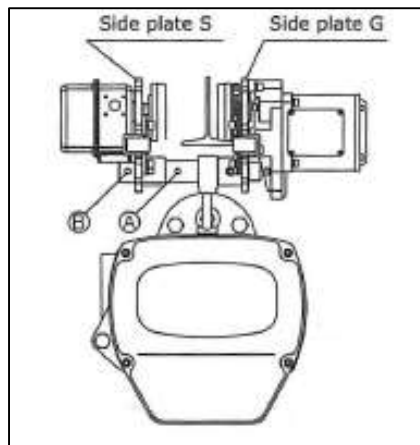

Figure 5.2.2.1
3. The simplest ways to mount the trolley hoist on the beam, as long as the crane or building construction permits it, is to remove the trolley stops on an open end of the beam, run the trolley onto the beam and replace the trolley stops. If this method is not possible due to crane or building interference, mount the trolley hoist according to the following instructions (refer to Figure 5.2.2.1).